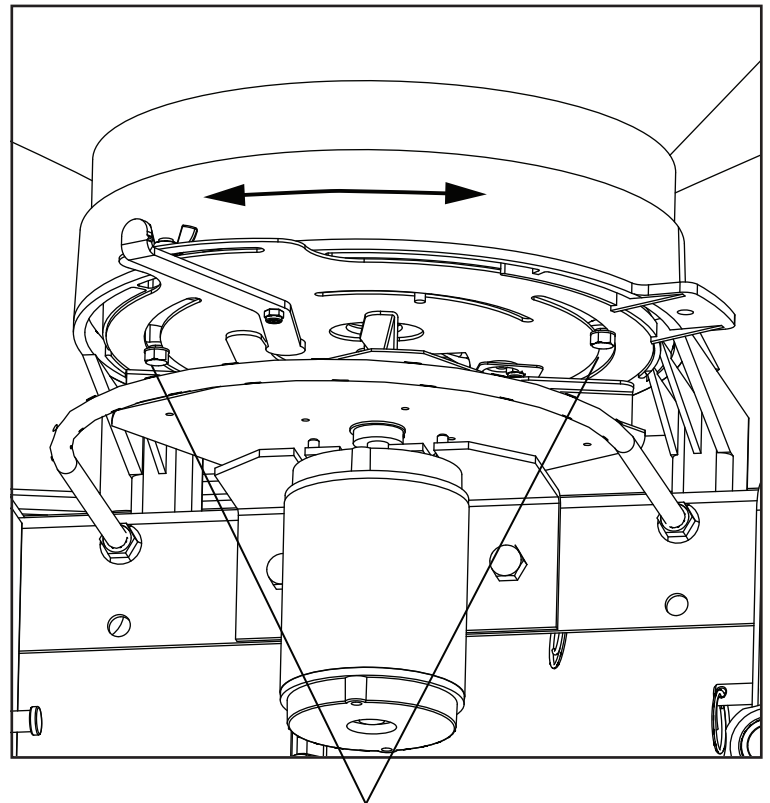

Figure 6
3. Loosen two capscrews holding gauge plate to base approximately 1/2 turn. See Fig. 6